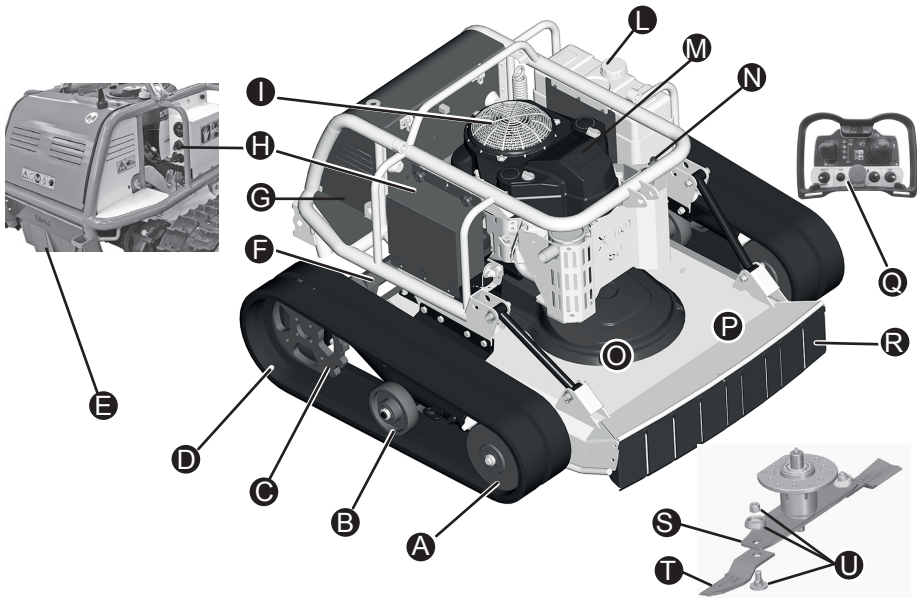

Fig 7
4.1 NAME OF MAJOR COMPONENTS (fig.7)
4.2 ENGINE (fig.7 - I)
4.2.1 AIR FILTER (Fig.7 - M - Fig 27)
The engine is equipped by an air filter. In case of dry grass and dusty environment the air filter have to be cleaned very often (every 2 hours). If some flying grass are trapped by the net of engine inlet air (Fig. 7 - I) it means that probably also the air filter need to be cleaned out. (see cap. 7.1.2). The clogging of the air filter can cause a lose of engine power. In normal condition, the air filter should be cleaned every day.
4.2.2 FUEL TANK (Fig.7 - L)
4.3 MOWER DECK (fig.7 - p)
To stop the engine push anytime the Red STOP Button (Fig 11 - f) and the engine will suddenly stops. Just after stopping, remind to release the emergency Button (f) in its normal position. After this operation it is necessary to connect again the Radio control to the machine. The engine can be also turned OFF by Alarm Button on the top of the machine (Fig.7 (l)), or just turning the Star Key (Fig 7 (h1)) OFF or if the machine lose the Radio connection with the remote Control.